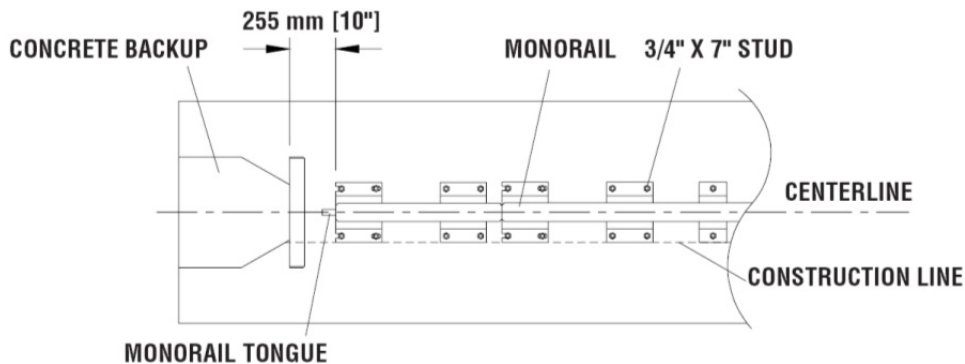

Figure 19
A) Monorail Construction for Concrete Backup (Figure 19)
Locate Monorail on foundation with side of Monorail on the construction line and rear edge of Monorail foot 10" forward of front face of Concrete Backup (See Figure 19).
Orient the Monorail so that the Monorail tongues face Backup (See Figure 19).
Orient the Monorail so that the Monorail tongues face the Backup (See Figure 19 on Page 19).